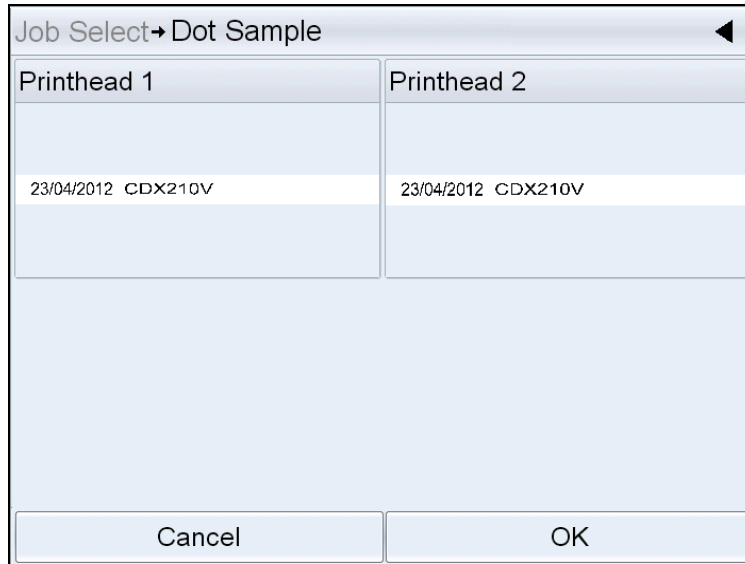

Figure 6-29: Job Select Preview
- c. You can preview the assigned job (see Figure 6-29).